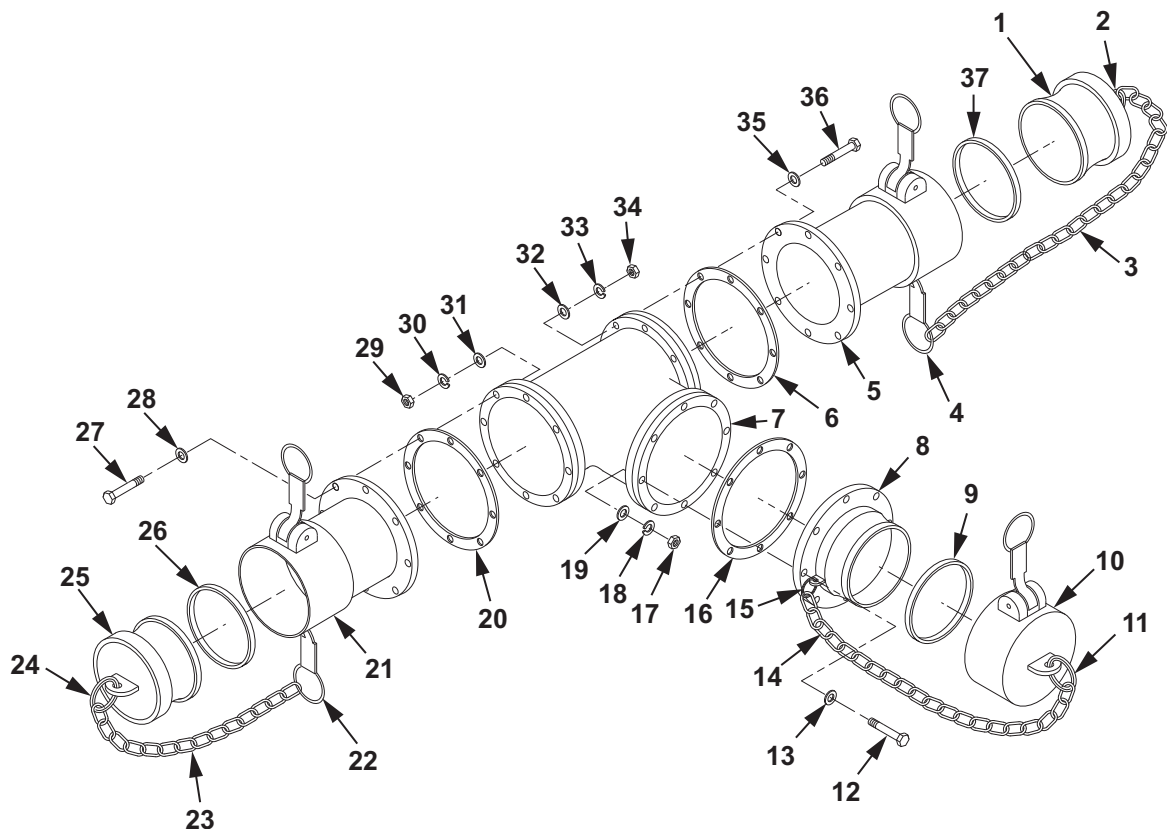

Figure 2. 4 In. Female X 4 In. Female X 4 In. Male Tee Disassembly.
1. Install split ring (Figure 2, Item 22) on chain (Figure 2, Item 23).
2. Install split ring (Figure 2, Item 22) on coupling (Figure 2, Item 21).
3. Install split ring (Figure 2, Item 24) on chain (Figure 2, Item 23).
4. Install split ring (Figure 2, Item 24) on quick disconnect dust plug (Figure 2, Item 25).
5. Install split ring (Figure 2, Item 15) on chain (Figure 2, Item 14).
6. Install split ring (Figure 2, Item 15) on coupling (Figure 2, Item 8).
7. Install split ring (Figure 2, Item 11) on chain (Figure 2, Item 14).
8. Install split ring (Figure 2, Item 11) on quick disconnect dust cap (Figure 2, Item 10).
9. Install split ring (Figure 2, Item 4) on chain (Figure 2, Item 3).
10. Install split ring (Figure 2, Item 4) on coupling (Figure 2, Item 5).
11. Install split ring (Figure 2, Item 2) on chain (Figure 2, Item 3).
12. Install split ring (Figure 2, Item 2) on quick disconnect dust plug (Figure 2, Item 1).
13. Install eight screws (Figure 2, Item 27) and washers (Figure 2, Item 28) through coupling (Figure 2, Item 21), new gasket (Figure 2, Item 20) and tee (Figure 2, Item 7).
14. Install eight washers (Figure 2, Item 31), new lockwashers (Figure 2, Item 30) and nuts (Figure 2, Item 29) on screws (Figure 2, Item 27). Hand tighten nuts (Figure 2, Item 29).
15. Using torque wrench and adapter, torque eight nuts (Figure 2, Item 29) to 37–43 ft lb (50–58 N·m).
16. Install eight screws (Figure 2, Item 12) and washers (Figure 2, Item 13) through coupling (Figure 2, Item 8), new gasket (Figure 2, Item 16) and tee (Figure 2, Item 7).
17. Install eight washers (Figure 2, Item 19), new lockwashers (Figure 2, Item 18) and nuts (Figure 2, Item 17) on screws (Figure 2, Item 12). Hand tighten eight nuts (Figure 2, Item 17).
18. Using torque wrench and adapter, torque eight nuts (Figure 2, Item 17) to 37–43 ft lb (50–58 N·m).
19. Install eight screws (Figure 2, Item 36) and washers (Figure 2, Item 35) through coupling (Figure 2, Item 5), new gasket (Figure 2, Item 6) and tee (Figure 2, Item 7).
20. Install eight washers (Figure 2, Item 32), new lockwashers (Figure 2, Item 33) and nuts (Figure 2, Item 34) on screws (Figure 2, Item 36). Hand tighten eight nuts (Figure 2, Item 34).
21. Using torque wrench and adapter, torque eight nuts (Figure 2, Item 34) to 37–43 ft lb (50–58 N·m).
22. Install new gasket (Figure 2, Item 26) and quick disconnect dust plug (Figure 2, Item 25) into coupling (Figure 2, Item 21).
23. Install new gasket (Figure 2, Item 9) and quick disconnect dust cap (Figure 2, Item 10) into coupling (Figure 2, Item 8).
24. Install new gasket (Figure 2, Item 37) and quick disconnect dust plug (Figure 2, Item 1) into coupling (Figure 2, Item 5).